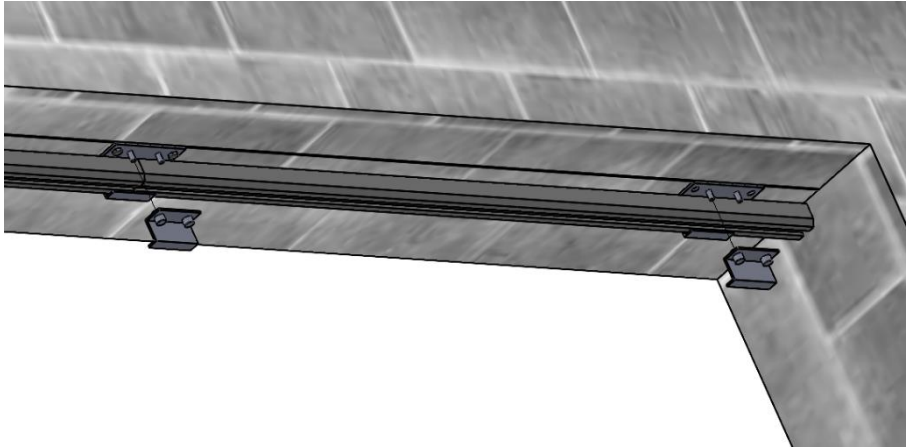

Figure 1 Snap Line, Install Track Splice and Track
1. Snap a chalk line on the underside of the Header to ensure alignment of the Track Splice Mounting Brackets. (Figure 1 Snap Line, Install Track Splice and Track)
2. Install the Track Splices to the underside of the Header with fasteners suited for the building material. Make sure that the Track Splices are aligned to the chalk line along the underside of the Header, and that there is a Splice located at all Track junctions. (Figure 1 Snap Line, Install Track Splice and Track)
3. Loosen and/or remove the nuts from one half of the track splices and install one track section. Make sure that the Track sits squarely in the Splices. Reinstall and tighten the Splice Clamp nuts. Repeat for the length of the run. (Figure 1 Snap Line, Install Track Splice and Track)